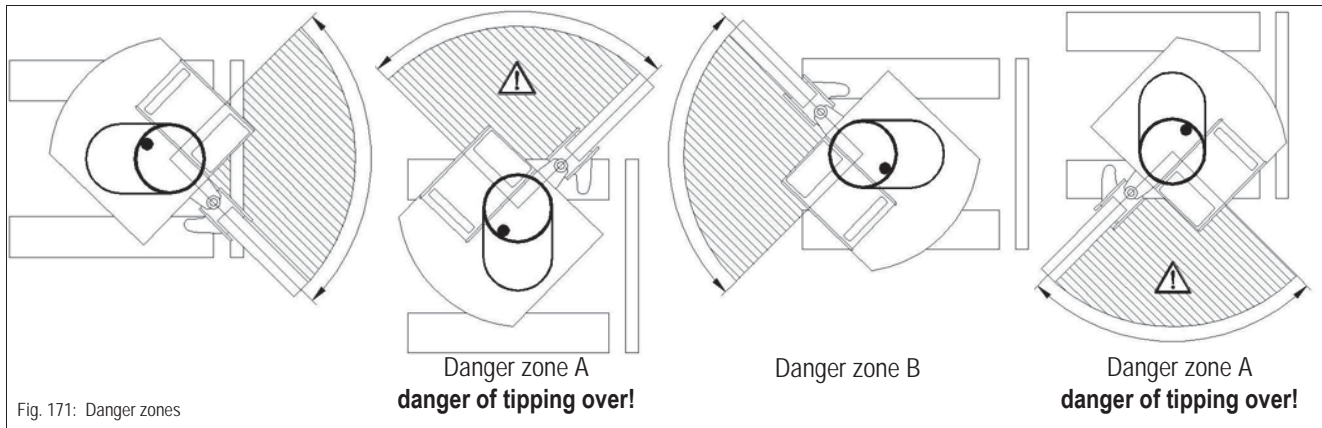

Fig. 171: Danger zones
- Do not allow anyone to stay in the danger zone – see Fig. 171
Depending on the position of the Vario feature, stability is higher or lower with respect to a standard excavator. Observe the lift capacity table and the danger zones shown in Fig. 171.